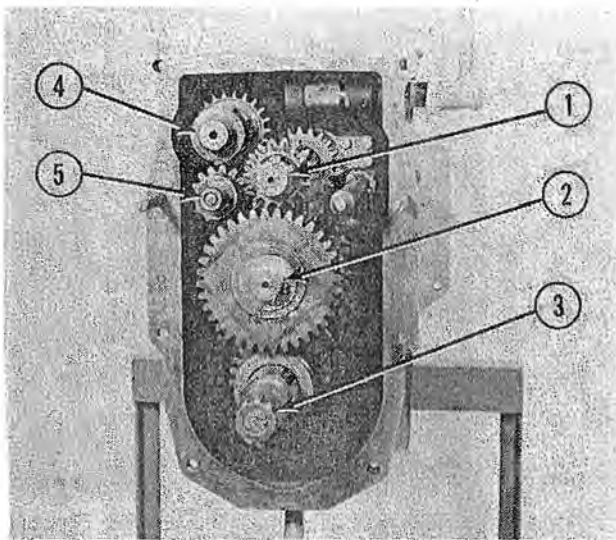

FIG. 1
To aid in orientation, Figure 1 identifies the (5) shafts that will be re-assembled into the case.
(1, Fig. 1) Power transmission shaft.
(2, Fig. 1) Idler shaft.
(3, Fig. 1) Pinion shaft.
(4, Fig. 1) 1st & 2nd gear shaft.
(5, Fig. 1) Reverse shaft.